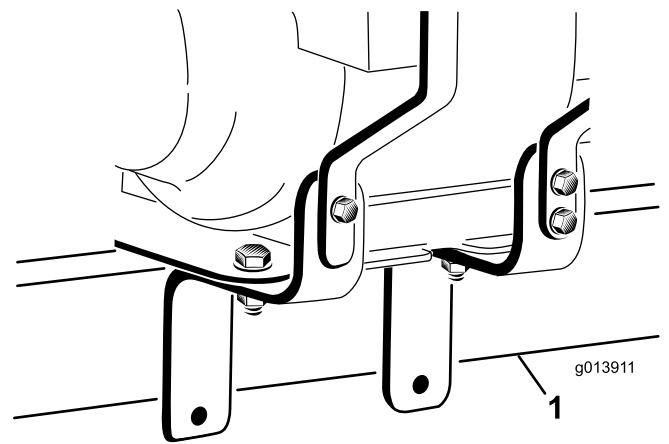
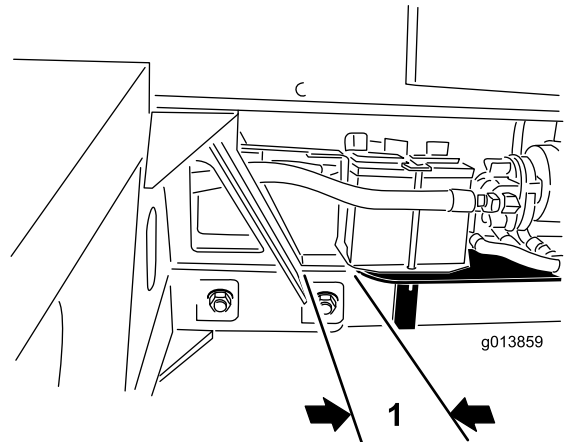

Figure 5
Figure 6
19. Since the engine assembly is heavy, positioning of this component can be difficult. With the help of an assistant, position the engine assembly onto the ProPass hitch tube. Ensure that the engine mount brackets straddle the hitch tube (Figure 5 and that the rear of the engine mount plate is approximately 1 inch (25 mm) from the ProPass hitch tube receiver (Figure 6).